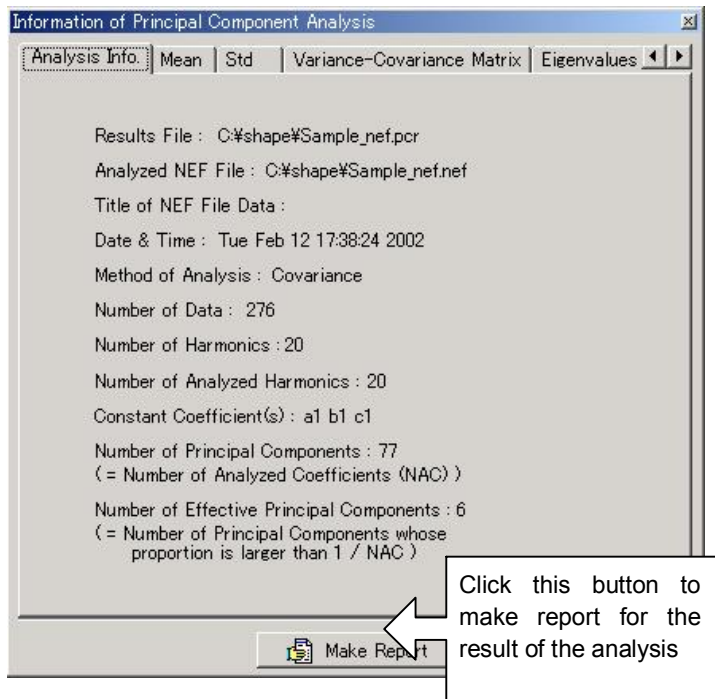
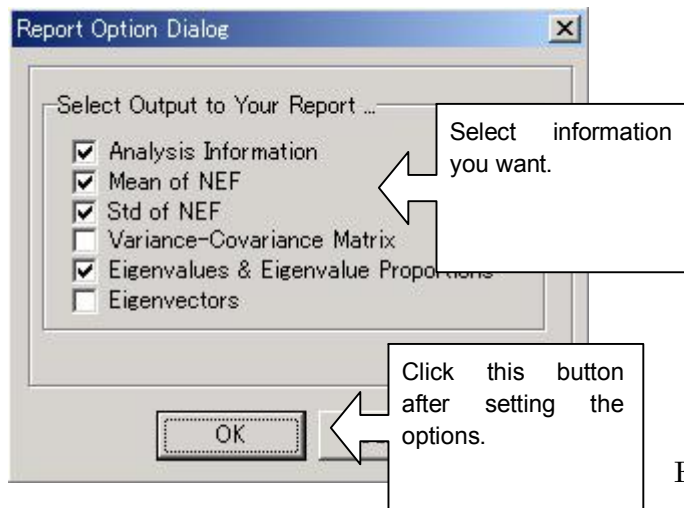

Fig. 27
Fig. 28
26. Click "OK" button (Fig. 26), and the save file dialog will be appeared. After specifying the name of a saved file (*.pcr), principal component analysis will be performed and the information window which contains the result of principal component analysis will be appeared (Fig.27).
27. Information contained in “Information of Principal Component Analysis” window can be output to a result report file in text format. Click “Make Report” button to make a result report (Fig. 27), and the “Report Option Dialog” will be appeared (Fig. 28). Set the options for the result report, and click the “OK” button. Then, the save dialog will be appeared. Input a file name to the dialog and click the "Save" button, a result will be saved in a report file.